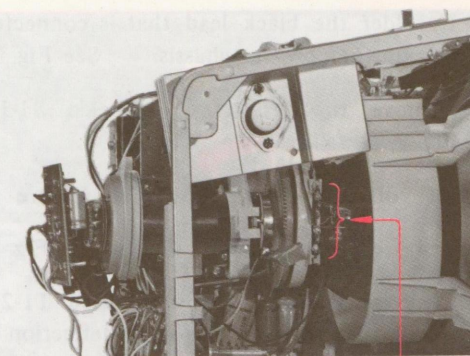

Fig. 2-26. Picture-tube removal, Step 7
7. Unsolder three leads (yellow, green and blue) that are located at the left of the deflection yoke. See Fig. 2-26.